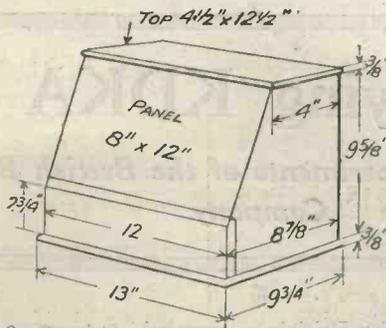

Fig. 8.—Constructional details of the containing box.
Full dimensions of the cabinet are given in Fig. 8, and no difficulty should be experienced by a careful worker. The cabinet could, of course, be obtained from a firm specialising in this form of work. The cost, in this case, should be, at the most, 18s. The panel is secured to the cabinet by means of wood screws, situated near each corner of the panel.
*Fig. 8.—A photograph of the underside of the panel of the three-valve panel receiver showing the disposition of the components and neat arrangement of wiring. The two rods seen on the bottom of the left hand side of the panel are the adjusting rods for the aerial and reaction coils.*
*Fig. 9.—Another photograph of the receiver seen from a different angle. Many of the actual connections and the scheme of wiring may be gathered from this illustration. Two adjusting handles for aerial and reaction coils which are not visible in Fig. 8 may be seen here.*